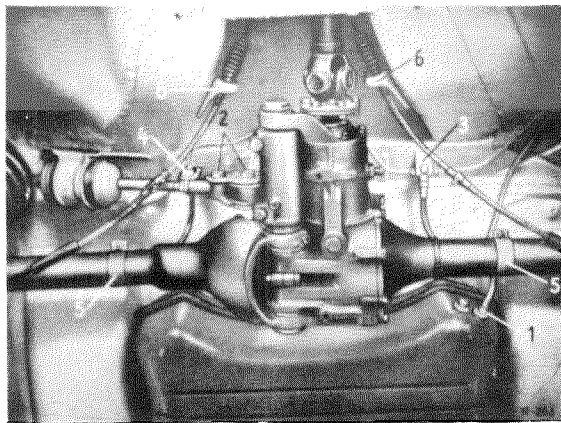

Fig. 47 — 1/3
5. Unfasten the hose clamps at both ends of the bleeder line (16). Then back out the fixing screw for the bleeder line (16). Pull out the vent and bleeder lines from the hoses (6) and (7) (Fig. 47 — 1/2) and remove the bleeder line (16) and the vent line (32).
6. Back out the fuel line sleeve nut (1) from the adapter (see Fig. 47 — 1/3).
7. Use a blunt screw driver to press upward the upper part of the cuff (33) (see Fig. 47 — 1/2).
8. Press down the lower part of the cuff (34), and then pull the extension (29) upward out
9. Unscrew the three nuts (28) for fixing the fuel tank and remove them, together with the washers (26) and lock washers (27) (see Fig. 47 — 1/2).
11. Thoroughly clean all parts, particularly the screen (36) and blow out the bleeder and vent lines with compressed air (see Fig. 47 — 1/2).